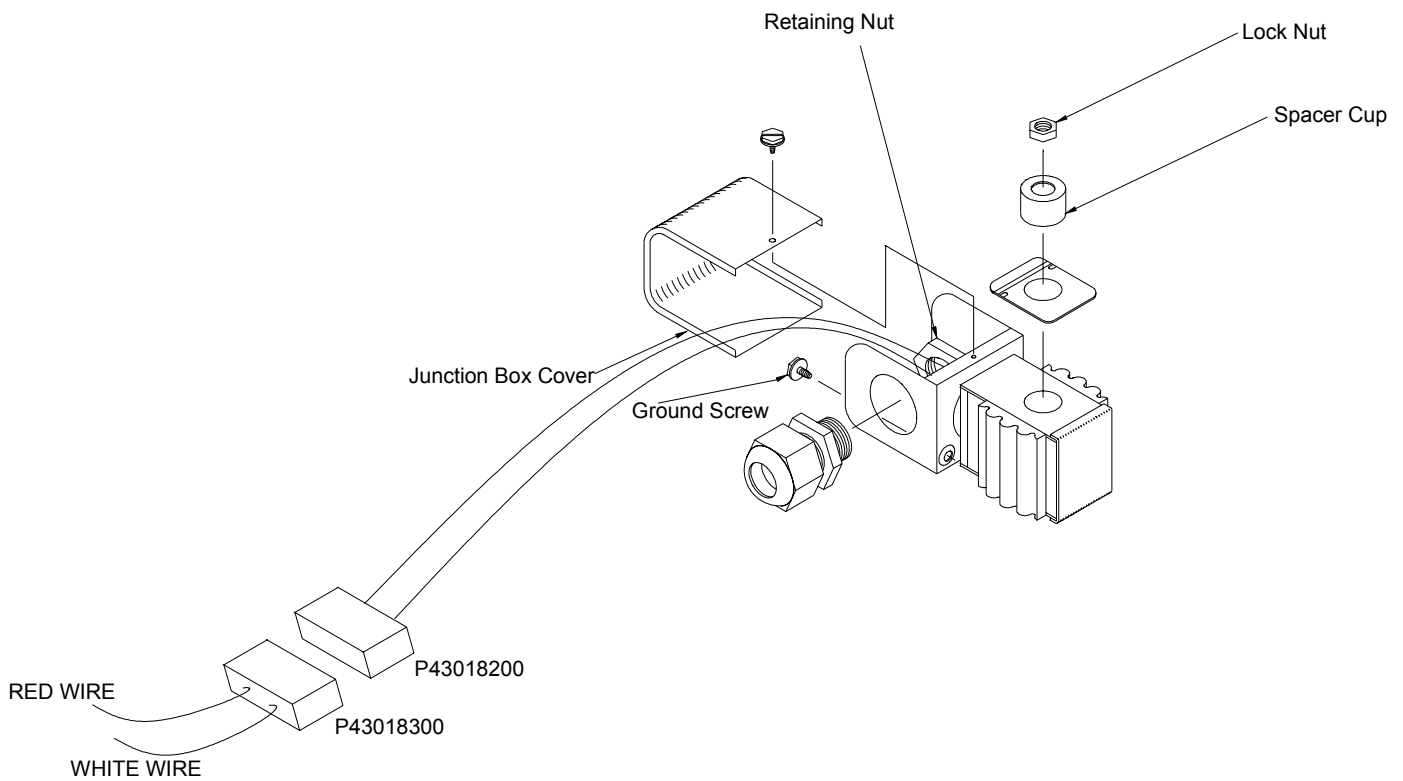

Figure 13 - Solenoid Coil Replacement
15. Attach wires and secure mating connections per figure 13 below.